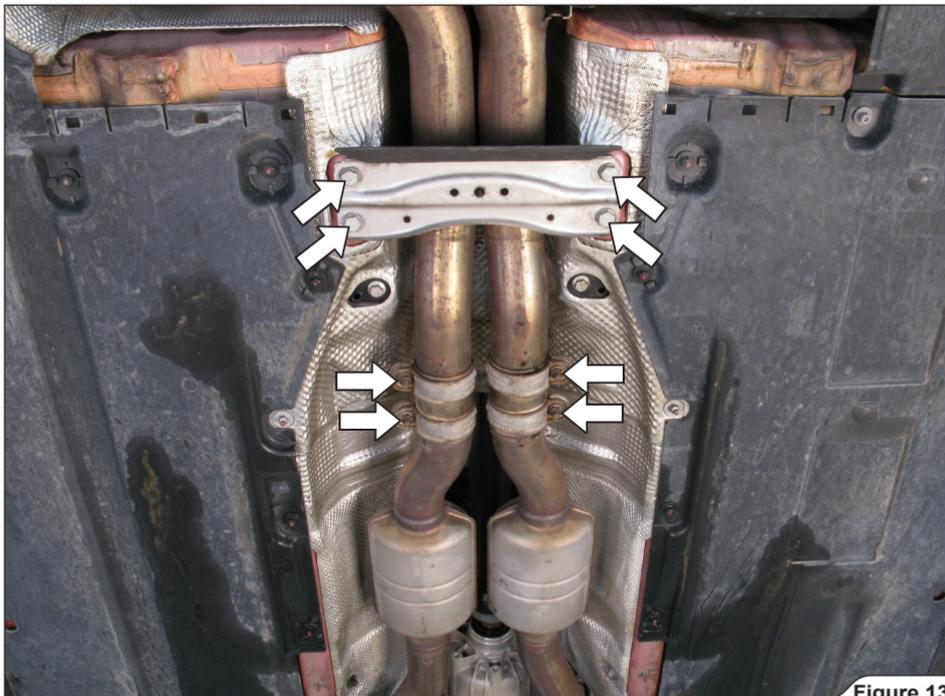

Figure 13
10. Support the exhaust system, unscrew and remove the chassis reinforcement and loosen the double clamps (Figure 13).